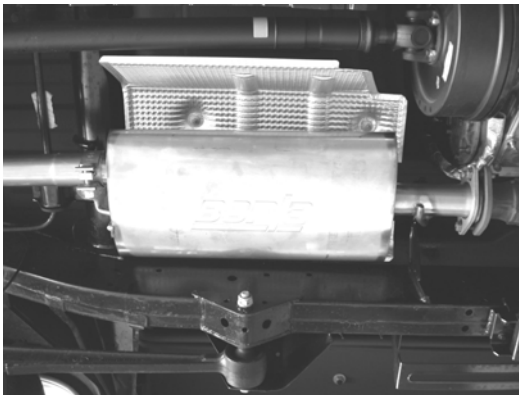

Figure 5
1. Using the original hardware, place the muffler assembly into position as shown in figure 5 making sure to install the hangers into the rubber brackets.